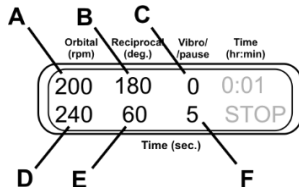
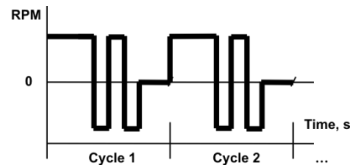

Figure 9.
Figure 10.
- 6.9.3. **Orbital + Reciprocal + Pause.** Set the speed (fig. 9/A, 20–250 rpm) and time (fig. 9/D, 1–250 s) of Orbital motion. Set the amplitude (fig. 9/B, 0–360°) and time (fig. 9/E, 1–250 s) for Reciprocal motion. It is performed at the same speed as the Orbital motion. Set the amplitude (fig. 9/C) of Vibro motion to zero. Set the time for Vibro motion (fig. 9/F, 1–5 s), this is the time of pause duration (fig. 10).